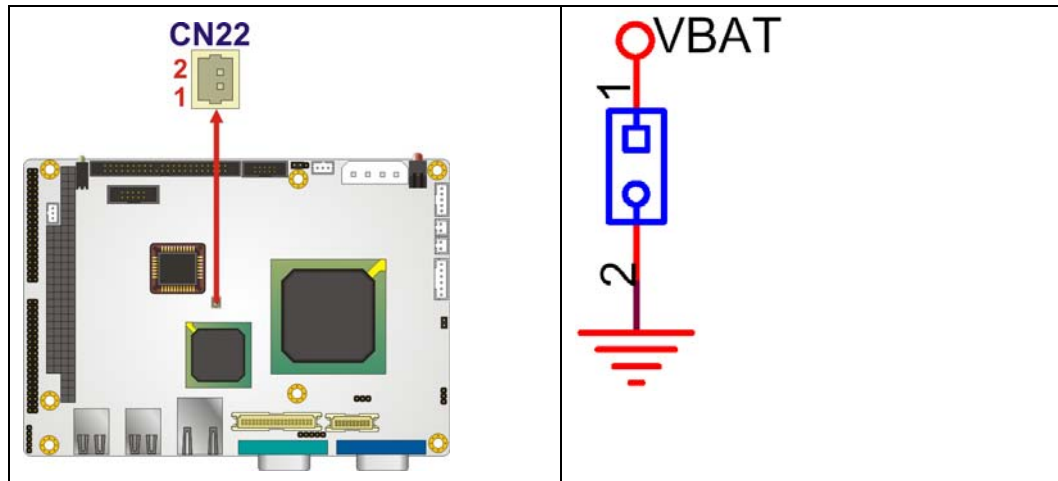

Figure 4-7: Battery Connector Location
- CN Location:** See **Figure 4-7**